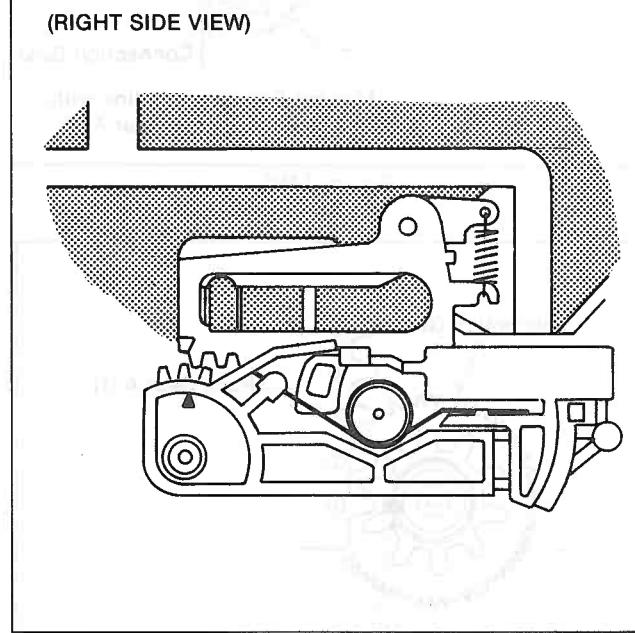

Figure M64
In this position, the arrow on the Wiper Arm should align with the arrow on the Rack (A)(1) Unit as shown in Figure M64.